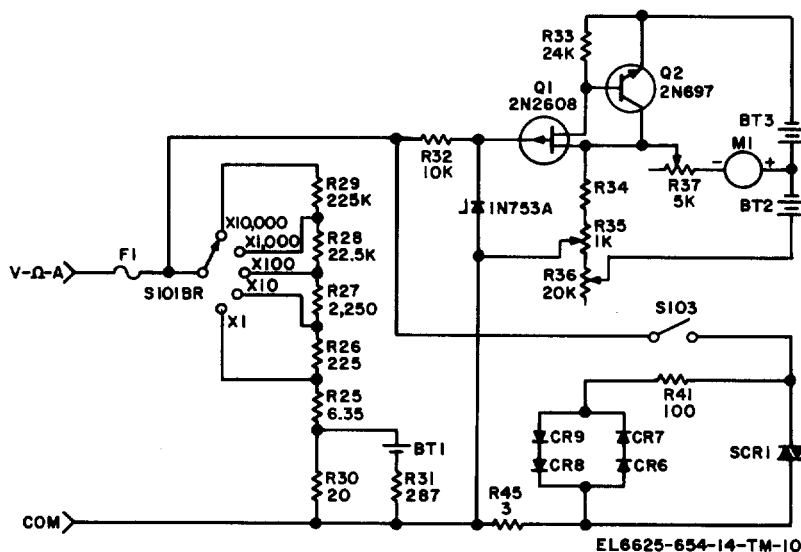

Figure 4-6. Simplified ohmmeter circuit.
a. *Circuit Description.* Figure 4-6 illustrates a simplified schematic diagram of the ohmmeter circuit. An open circuit potential of less than 120 millivolts for "safe" measurements in solid state circuitry is provided. This is obtained by dividing down the 1.5-volt potential of battery BT1 with a voltage divider made up of resistors R30 and R31. The operating potential of 120 millivolts is developed across R30. The positive end of the battery is connected to the COM terminal. The negative end of R30 (negative ohmmeter supply